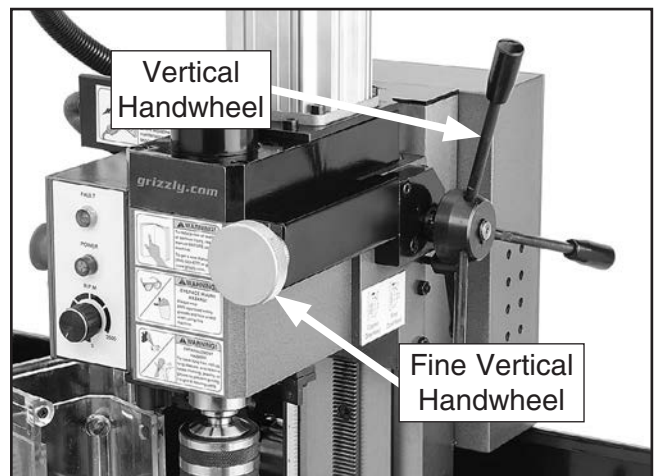

Figure 85. Location of mill headstock vertical controls.
2. Use the coarse vertical handwheel shown in **Figure 85** to adjust headstock height and relative position of cutting tool before cutting.
3. Use the fine vertical handwheel shown in **Figure 85** for precision vertical adjustment during milling operations.